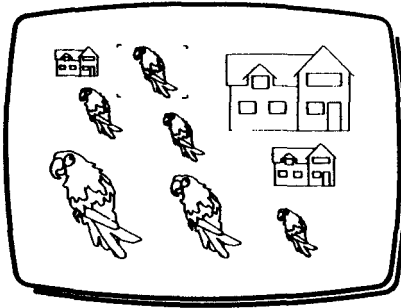

Fig 3
- 4 Press and release **T** to plant the duplicated library unit where required, as in Fig 3.